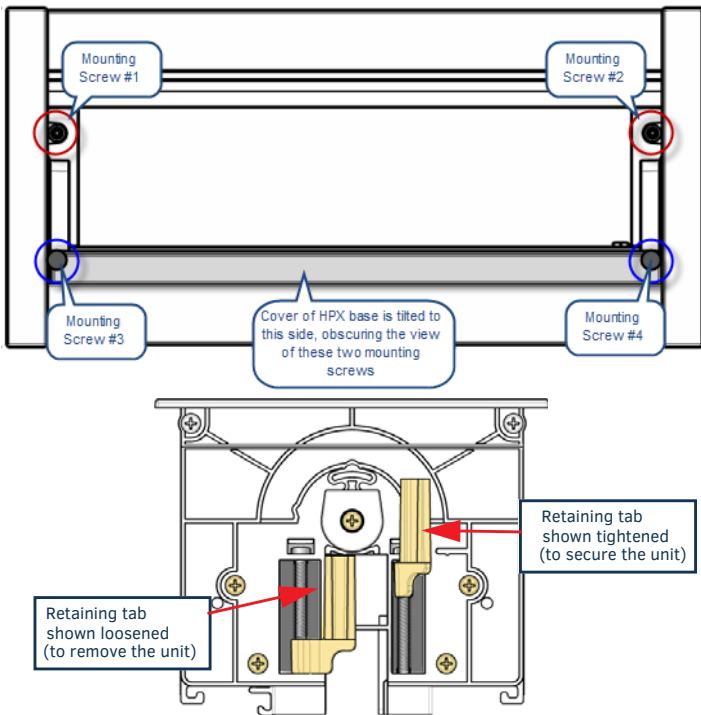

FIG. 3 HPX BASE ASSEMBLY (SHOWN MOUNTED) - MOUNTING SCREWS LOCATIONS
- Carefully tighten the mounting screws until the mounting tabs contact the backside of the mounting surface and torque to 8 in-lbs (FIG. 3). It will be necessary to flip the cover to the opposite side to access the other two screws.